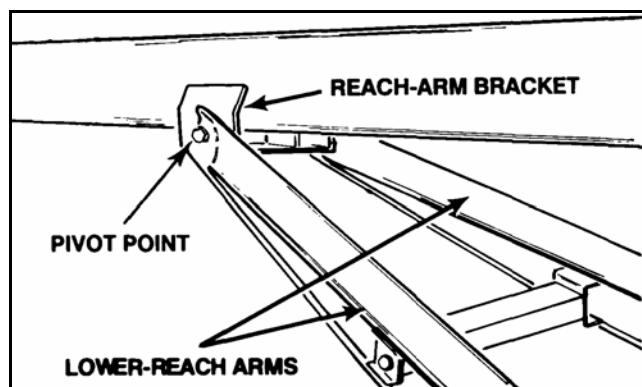

Figure 3.17
8. **6" and 13" augers only:** Position transport undercarriage beneath tube assembly and attach lower reach arms (Figure 3.17) or extension arms (6.) to reach arm bracket on bottom tube with $5/8"$ x $1-1/2"$ bolts and locknuts. **Do not overtighten.** Tighten snug only; these bolts act as pivot points.